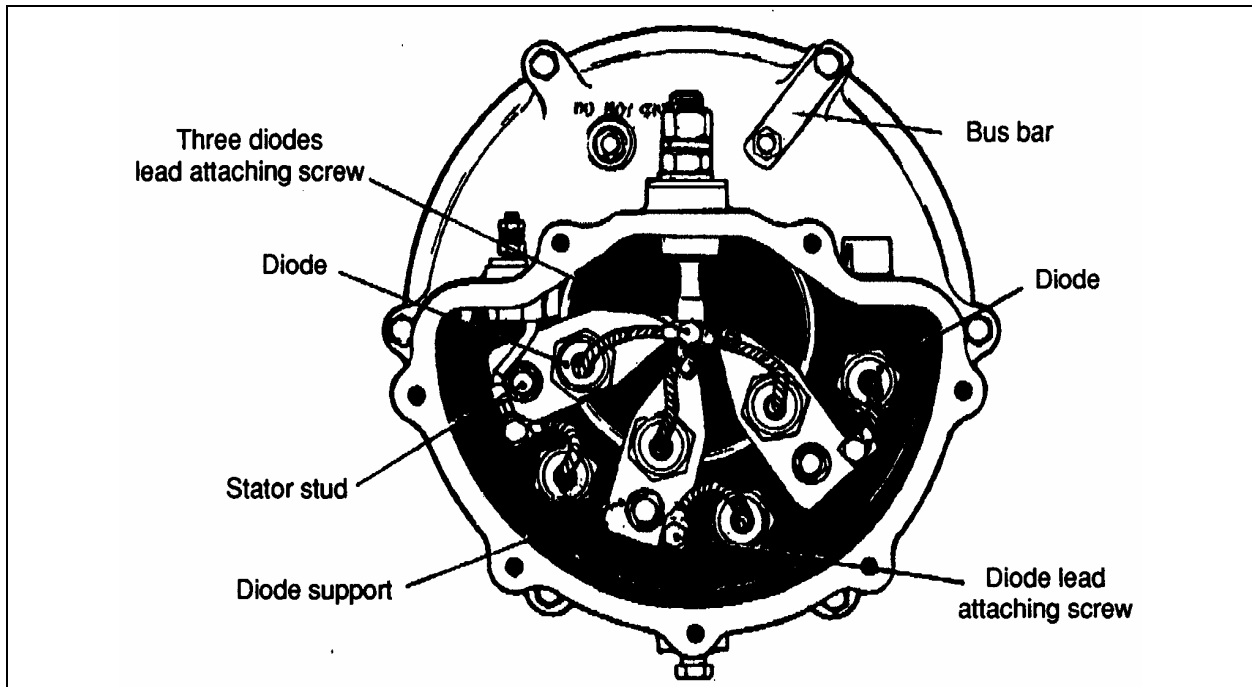

FIGURE 33: VIEW OF RECTIFIER END FRAME WITH COVER REMOVED
5. Disconnect all diode flexible leads; i.e. three from the output terminal stud and three from the diode supports. See figure 33 for more details.